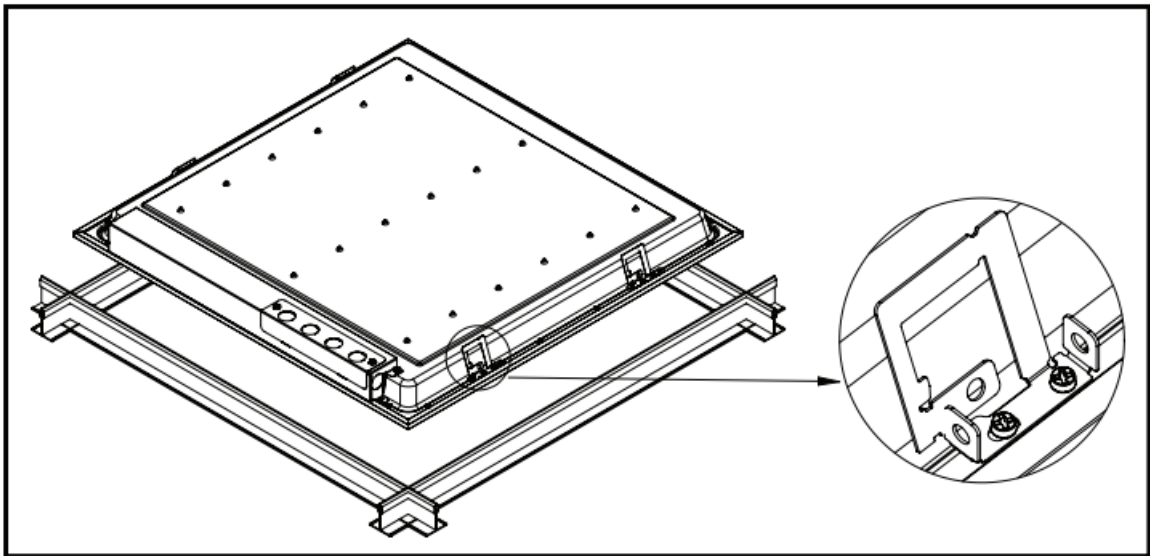

Figure 2.
5. Pass the fixture through the grid at a 45-degree angle and lay the fixture into the grid (Fig. 2).